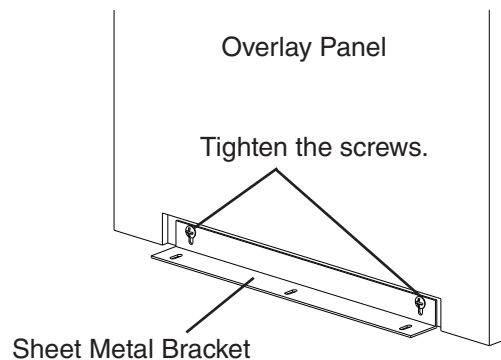

Fig. 16
- 4) Remove the overlay panel from the door and tighten the two M4×8 truss head screws securing the sheet metal bracket to the overlay panel. See Fig. 16.